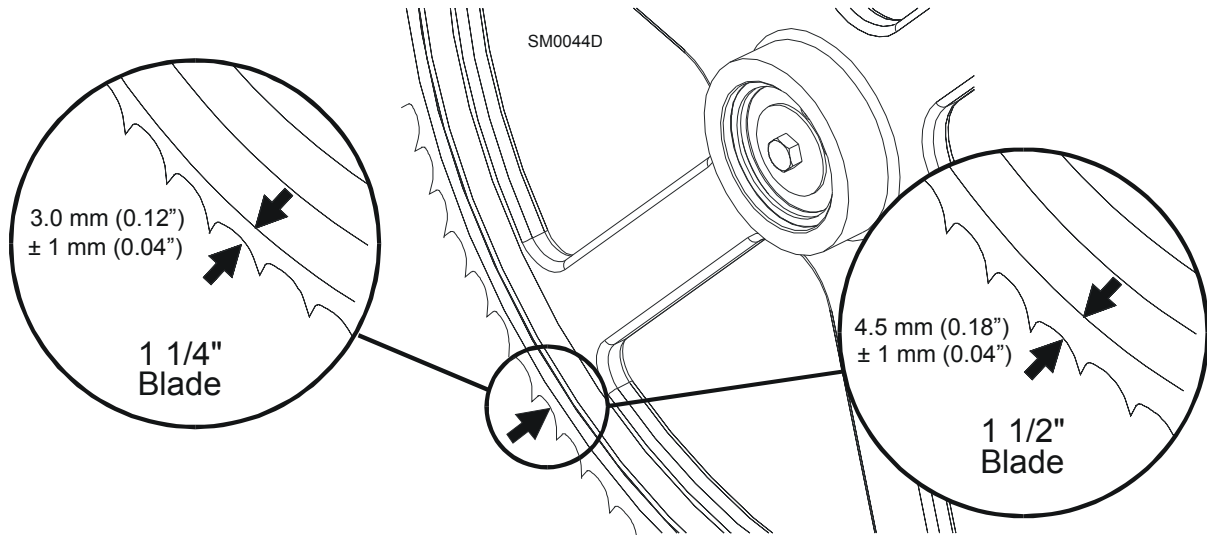

FIG. 4-2
**See Figure 4-2.** The blade wheels should be adjusted so that the gullet of 1 1/4" blades rides 3.0 mm (0.12") out from the front edge of the wheels ( $\pm 1.0$  mm [0.04"]). The gullet of 1 1/2" blades should ride 4.5 mm (0.18") from the front edge of the wheels ( $\pm 1.0$  mm